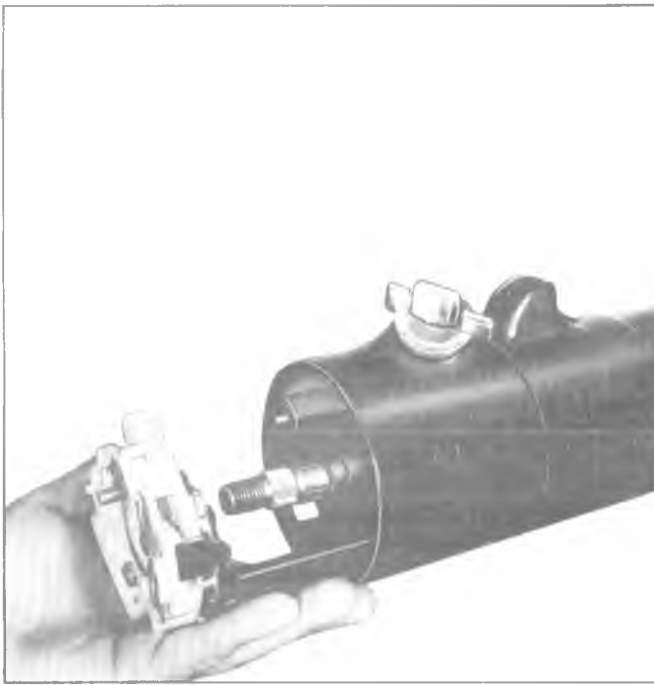

Fig. 3B4-25--Directional Signal Switch
3. Check centering of pin (Fig. 3B4-24).